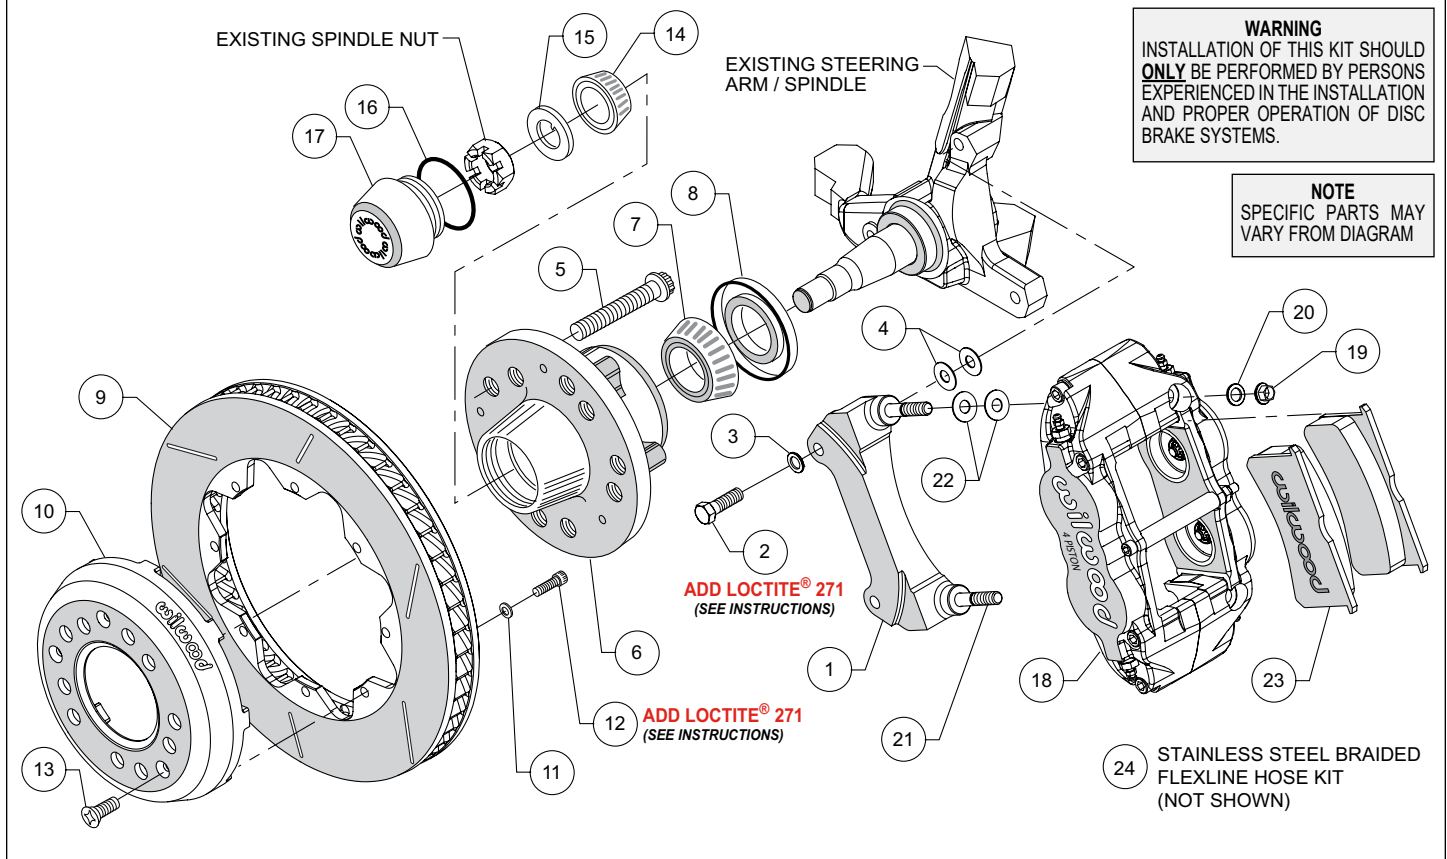
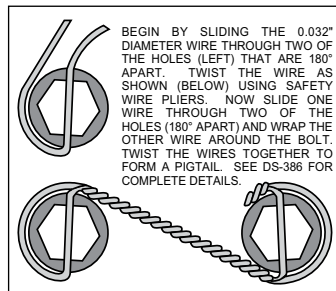

Figure 2. Typical Installation Configuration
Figure 4. Safety Wire Diagram
**NOTE:** Numbers in parenthesis refer to the parts list and Figure 2 on the preceding pages.
•The caliper mount bracket (1) should initially be installed with clean, dry threads on the mounting bolts. Orient the bracket as shown in Figure 2 and Photo 1, and install using bolts (2) and washers (3). Initially place two .035" thick shims (4) on each bolt between the bracket and upright, Figure 2. Temporarily tighten the mounting bolts. **NOTE:** The bracket must fit squarely against the mounting points on the spindle. Inspect for interference from casting irregularities, machining ridges, burrs, etc. Later, after the caliper alignment has been checked, the mount bolts will be secured using red *Loctite*® 271.
•Install wheel studs (5) into the hub (6), Photo 2. Torque to 77 ft-lb. **NOTE:** There are two five lug patterns in the hub (5 x 4.50 and 5 x 4.75). Ensure the correct hub stud pattern is being used to fit the wheel application.
•Pack the large inner bearing cone (7) with high temperature disc brake bearing grease (available from your local auto parts store) and install into the backside of the hub (6), Photo 3.
•Install the grease seal (8) by pressing into the backside of the hub (6), flush with the end of the hub, Photo 3.
•Orient the rotor (9) and the hat (10) as shown in Figure 2 and Photo 4. Attach rotor to hat using bolts (12) and washers (11). Apply red *Loctite*® 271 to the bolt threads and torque to 25 ft-lbs using a criss-cross pattern. For an added measure of security, the bolts may be safety wired using standard 0.032 inch diameter stainless steel safety wire as shown in Figure 4. Refer to
- Slide the hat/rotor assembly (9/10) onto the hub (6) taking care to align the small countersunk holes in the hat (10) with the small threaded holes in the hub. **NOTE:** The hat must fit flush against the hub face or excessive rotor run out may result. Install three flat head screws (13) through the small holes in the hat, Photo 6, and torque to 85 in-lb.
- NOTE:** This kit contains distinct right and left hand calipers that must be mounted in a specific direction, as described below. Initially place two .035" thick shims (22) on each stud (21) between the caliper and the bracket, as shown in Figure 2 and Photo 7. With the bleed screws pointing up, mount the caliper (18) onto the bracket (1) using lock nuts (19) and washers (20), Figure 2. Ensure that the caliper is mounted so the largest pistons are at the rotor exit end of the caliper, in relation to the direction of rotor rotation. Temporarily tighten the lock nuts and view the rotor through the top opening of the caliper. The rotor should be centered in the caliper, Photo 8. If not, adjust by adding or subtracting shims (4) between the bracket and the spindle. Always use the same amount of shims on each of the two mounting bolts. Once the caliper alignment is correct, remove the bracket mounting bolts one at a time, apply red Loctite® 271 to the threads, and torque to 40 ft-lb.